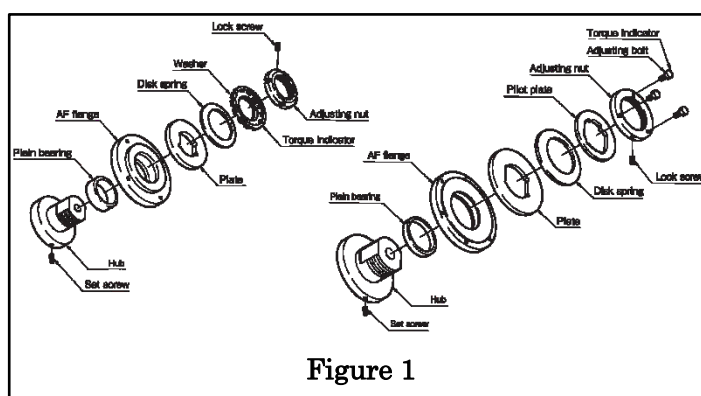
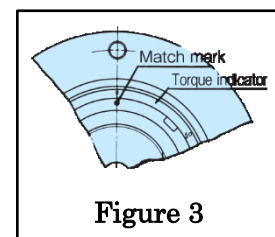
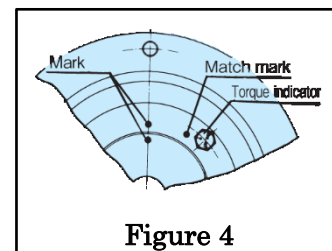

Figure 1
Figure 3
Figure 4
1. TFK20,25,35 (Refer to Fig.1 and Fig.3)
①Set Plane bearing, AF flange, Plate, and Disc spring onto Hub.
2. TFK50,70 (Refer to Fig.1 and Fig.4)
①Set Plane bearing, AF flange, Plate, Disc spring, and Pilot plate onto Hub.